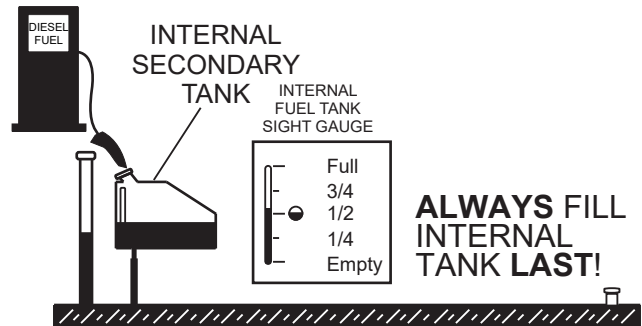
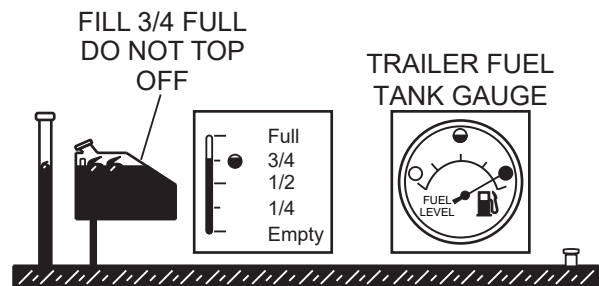

Figure 30. Filling Internal Secondary Fuel Tank
Figure 31. Full Fuel System
4. Once the trailer tank is full, the secondary, internal tank can be filled (Figure 30). Notice how the level rises inside the trailer filler tube when the internal tank is filled. Figure 31 illustrates a full fuel system.